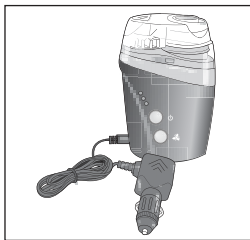

Fig. 3
2. Insert the DC adapter directly into the underside of the housing, Fig 3.